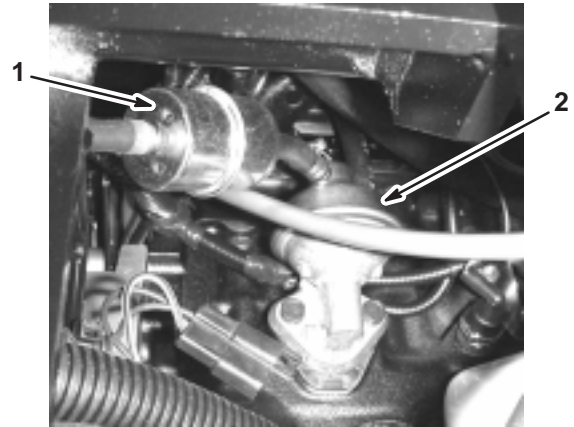

Figure 36
4. Loosen and slide the hose clamps away from the filter (Fig. 36).
1. Loosen and slide the hose clamp away from the threaded filter (Fig. 36).
2. Remove the hose from the filter (Fig. 36).
3. Using a 5/16 wrench, remove the filter (Fig. 36).